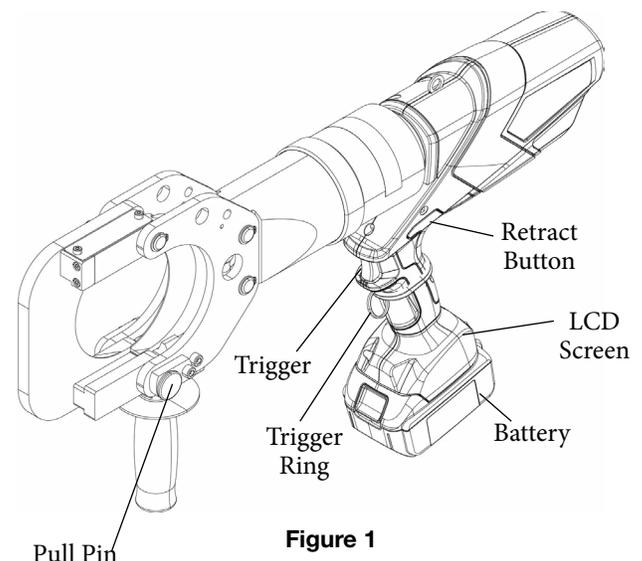

Figure 1
8. Open head by using the pull pin. (Figure 1)
9. Position the tool so the cable is in the open cutting head. (Figure 1)